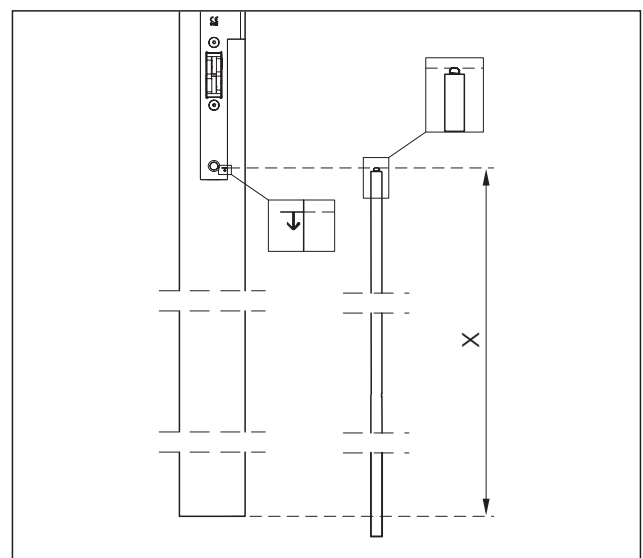

Fig. 43 Determine the length of the lower espagnolette bolt
3. Determine and mark the length of the lower espagnolette bolt (Abb. 43).